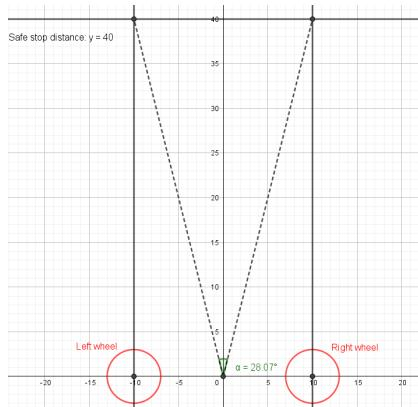

Fig. 4. Blind angles
3) Checking the blind angles: In addition to the three directions we had already implemented, we decided to focus on two more directions; the so-called blind angles. These were meant to make the robot able to avoid an obstacle if it was only slightly in front of it, but not so much that the average would get low enough. We calculated these by measuring the minimal distance between two obstacles that robot could drive through - that is, the width of the robot, which we measured to be 20cm. We wanted the robot to begin avoiding the obstacles at the blind angles from a distance of 40cm. We got the result as depicted in figure 4. We also wanted these angles to be very narrow such that the robot would be able to detect even a small corner of some obstacle. For this reason we only looked at a span of 8 degrees.